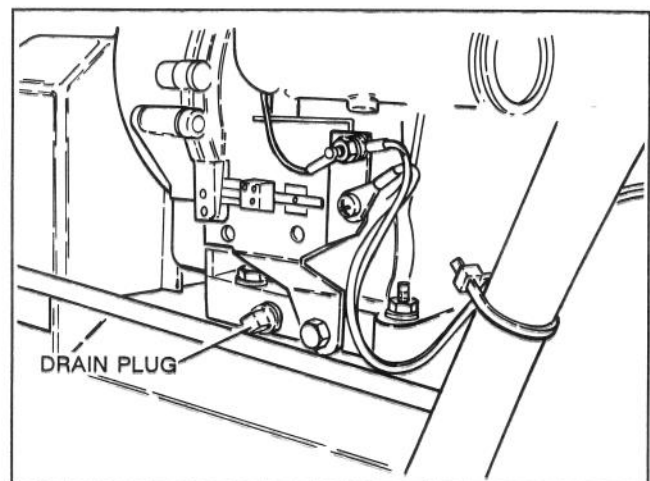

Figure 3
5. Remove drain plug from left side of engine (Fig.3) and reinstall in right side.